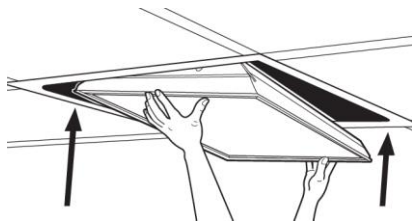

FIG. 9: CEILING INSTALLATION
- a. Place the fixture in the appropriate T-Grid ceiling structure. See Figure 9.